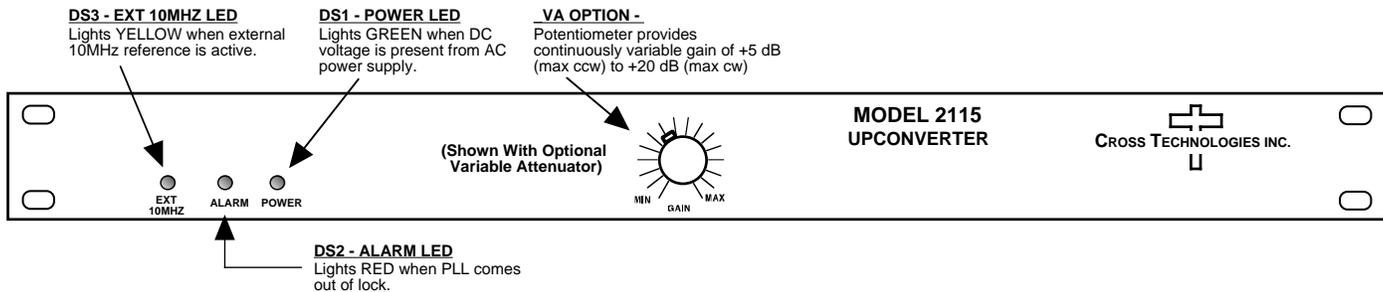

FIGURE 2.2 2115-109 Front Panel Controls and Indicators
4. Be sure DS1 (green, DC Power) is on and DS2 (red, Alarm) is off (Figure 2.2).
7. If EXT is selected or AUTO is selected and there is a 10MHz, +3 dBm signal at J2, check that DS3 (yellow, Ext 10MHZ) is on (Figure 2.2).